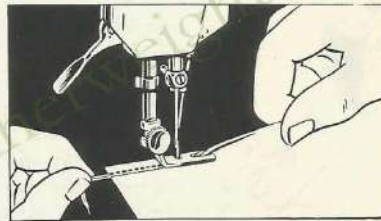

Fig. 46. Hemming Edge of Material and Pulling Back Threads While Sewing
4. Lower hemmer and start to sew, slightly pulling threads back while sewing. Keep mouth of hemmer full to produce a smooth, even hem, as shown in Fig. 46.